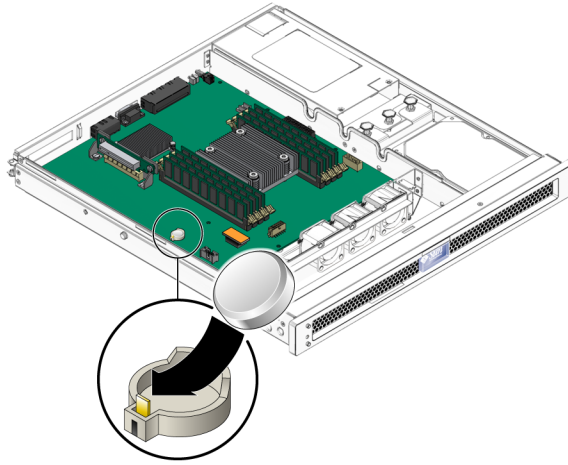

FIGURE 3-13 Replacing the Clock Battery on the Motherboard
2. Press the new battery into the motherboard (FIGURE 3-13) with the + facing upward.